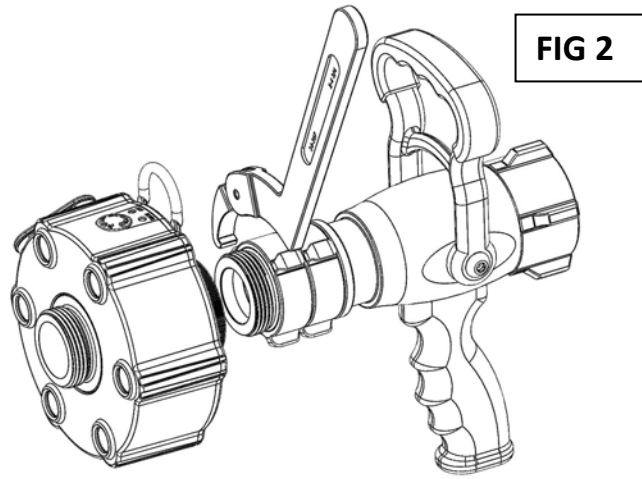

FIG 2
B) INSTALL THE LAMINAR FLOW INSERT INTO THE CENTER HOLE OF THE KNOBLITE® 2500, THEN ATTACH THE KNOBLITE® 2500 TO THE ADJUSTING COUPLER. MAKE SURE THE ON/OFF BUTTON IS FACING UP AND TIGHTEN DOWN WITH SPANNER WRENCH USING MODERATE FORCE (FIG 2).